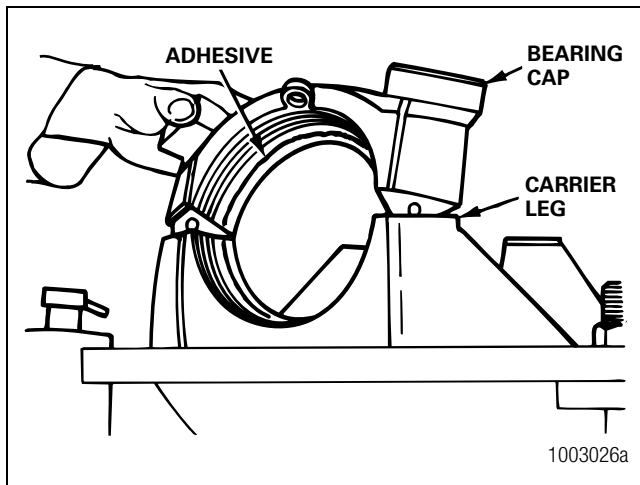

Figure 4.13
3. Apply a single continuous bead of the adhesive to the bearing bores in the carrier and bearing caps. Apply the adhesive around the circumference of the smooth, ground surfaces only. Do not place the adhesive on the threaded areas. Figure 4.13.